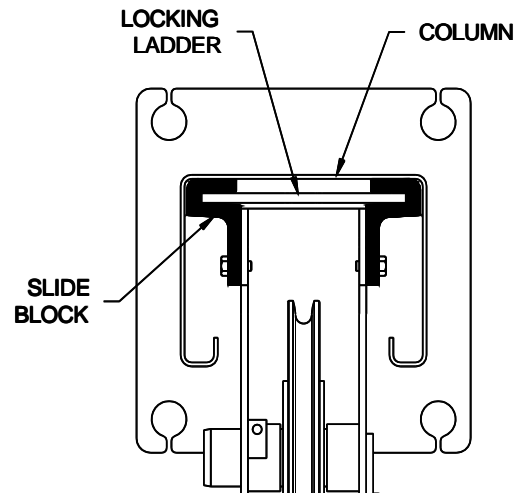

Fig 10 – Locking Ladder Orientation
- 16) Raise the locking ladder, push the column against the slide blocks, and lower the ladder into the slide blocks, **Fig 10.**